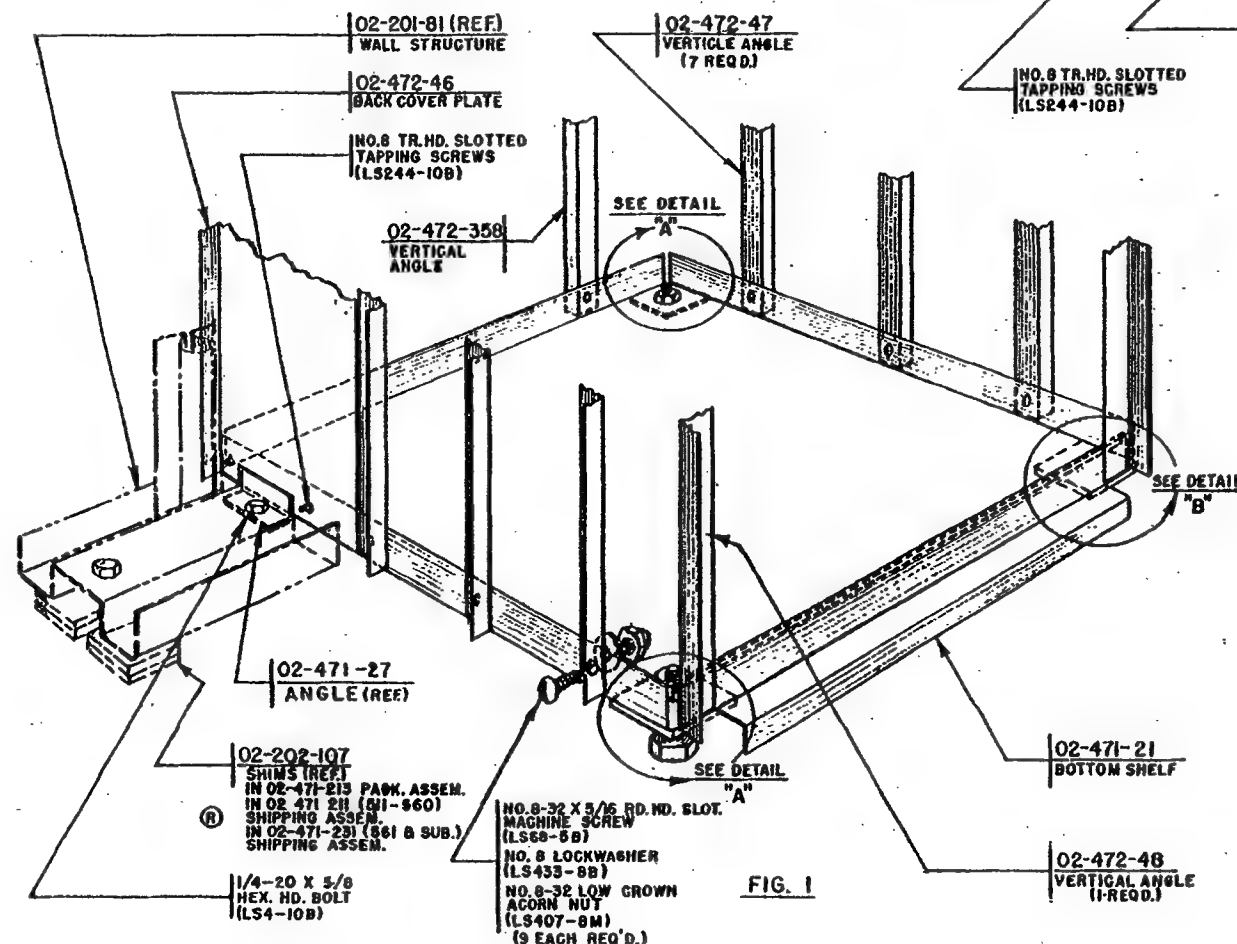

FIG. 1
STEP 1: ATTACH BACK COVER PLATE 02-472-46 TO BOTTOM SHELF 02-471-21 USING (2) LS244-10B NO. 8 TR. HD. SLOTTED TAPPING SCREWS. BOLT BOTTOM SHELF TO 02-201-81 WALL SECTION USING LS4-10B HEX HEAD BOLT. SEE FIG. 1.
STEP 3: ATTACH (6) 02-472-47 VERTICAL ANGLES, (3) ON RIGHT SIDE OF CABINET & (3) ON LEFT SIDE OF CABINET, LINKING TOP & BOTTOM SHELVES. USE LS68-58 MACHINE SCREWS AND LS407-8M LOW CROWN AGORN NUTS AND LS433-8B WASHERS. SEE FIGS. 1 AND 2.
STEP 5: INSTALL (2) VERTICAL ANGLES 02-472-358 & 02-472-47, ONE AT REAR OF CABINET AND ONE AT RIGHT FRONT CORNER, AS SHOWN. INSTALL 02-472-48 VERTICAL ANGLE AT FRONT LEFT CORNER OF CABINET. USE LS68-58 MACHINE SCREWS AND LS433 8B LOCKWASHERS AND LS407 8M LOW CROWN AGORN NUTS. FIG. 1.